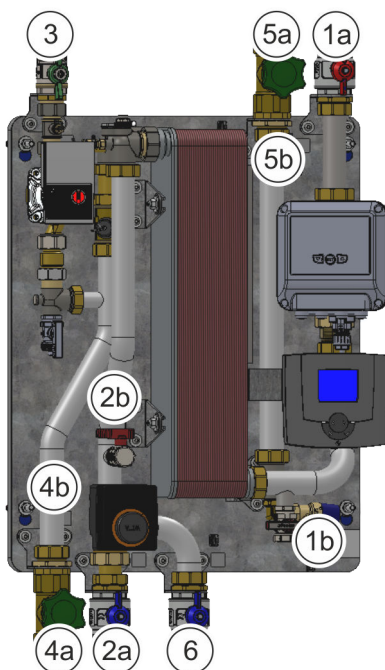

Fig. 27: Filling the fresh hot water station
5. ➔ Slowly open the connection for the main supply line for drinking water (Fig. 27/4a or 4b).
6. ➔ Open the connection for drinking water distribution (hot) (Fig. 27/5a or 5b).
7. ➔ If installed and already connected, open the connection for integrated circulation (Fig. 27/3).
Slowly open the primary connection for the heat supply flow line (Fig. 27/1a or 1b).
Open the primary connection for the heat supply return line (Fig. 27/2a or 2b).
If installed and already connected, open the connection for the two-zone stratifier line (Fig. 27/6).